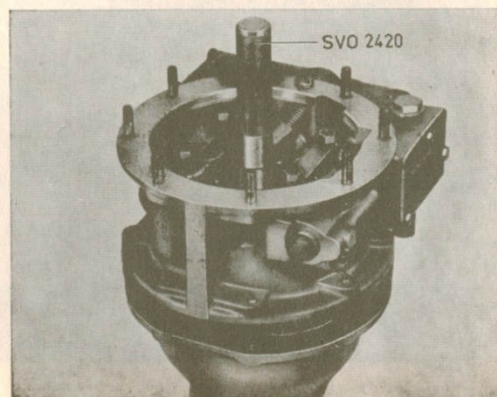

Fig. 3-59. Fitting front housing half
8. Place the unit assembled as described in point 7 onto the rear housing half. Guide the splines in the planet wheel carrier and free wheel hub with mandrel SVO 2420, see Fig. 3-59. Place on washers and nuts. Tighten the nuts a little at a time until they are evenly tightened all round.